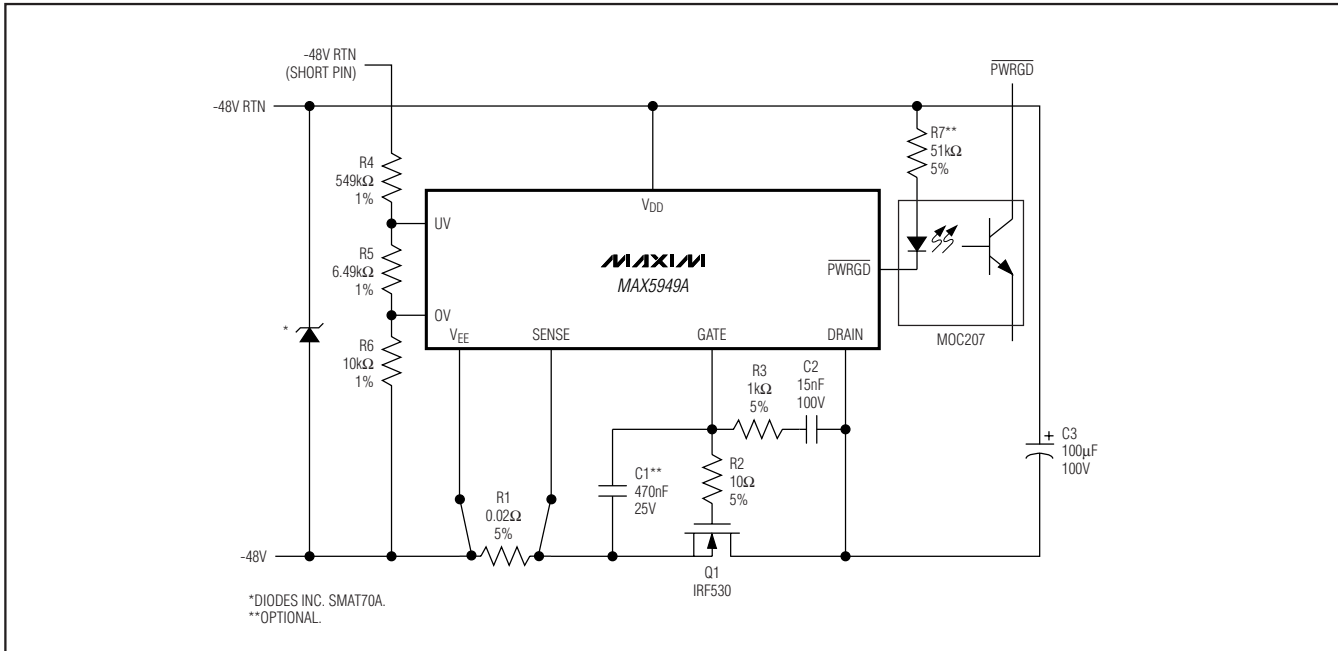

Figure 15. Using  $\overline{\text{PWRGD}}$  to Drive an Optoisolator
The  $\overline{\text{PWRGD}}$  signal can also be used to turn on an LED or optoisolator to indicate that the power is good (Figure 15) (see the *Component Selection Procedure* section).
- If an optocoupler is utilized as in Figure 15, determine the LED series resistor: